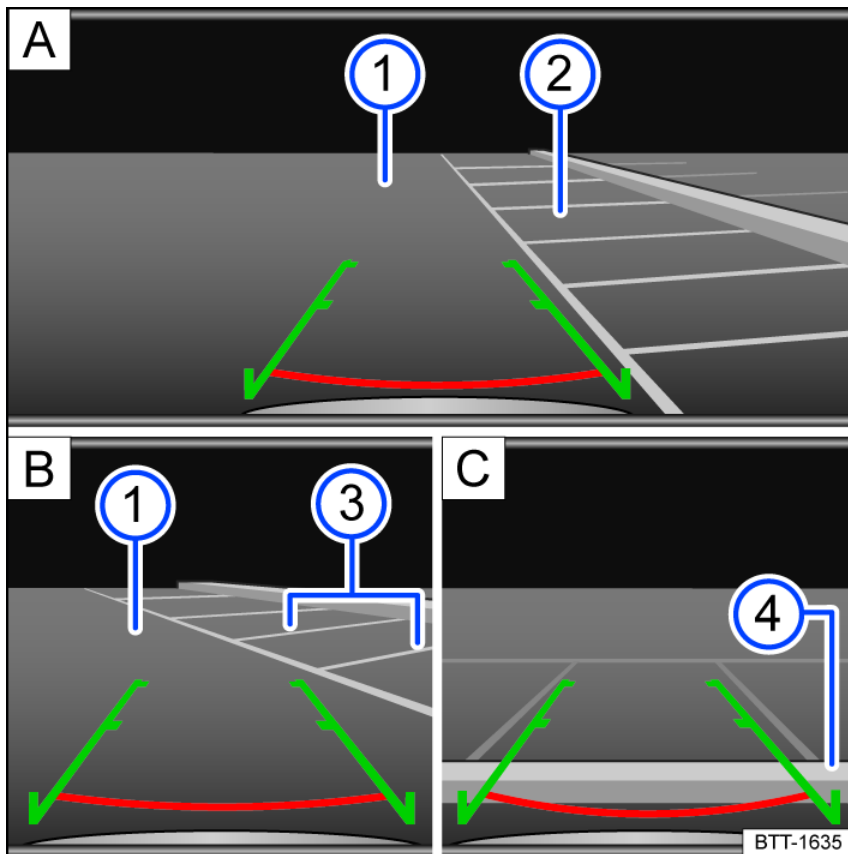

Fig. 142 Infotainment system: Parking with the Rear View Camera system.
1. Position your vehicle in front of the parking space fig. 142 A ②.
3. Slowly reverse while steering so that the green side lines line up with the selected parking space. The green lines must line up with the side boundaries of your parking space fig. 142 B ③.
4. Stop when the red horizontal line reaches the rear boundary fig. 142 C ④.